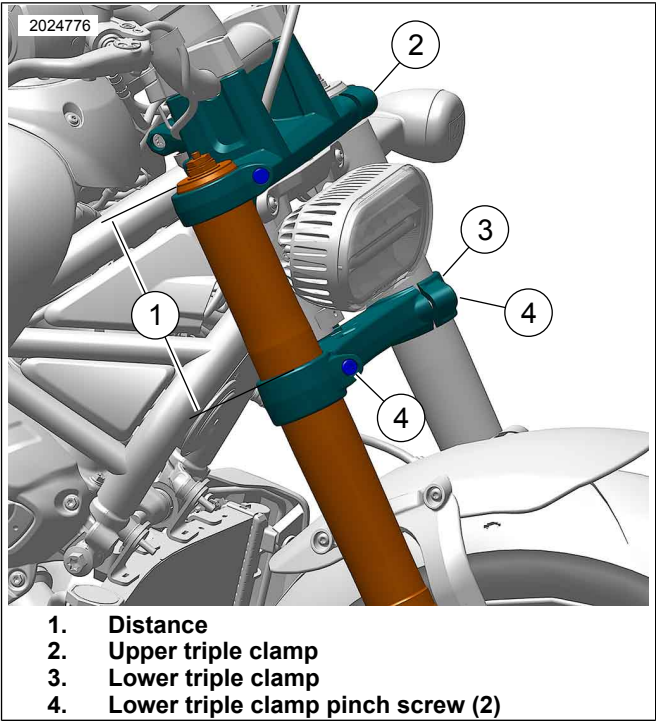

Figure 2. Front Fork Mount (typical)
2. With the OE upper triple clamp (2) removed, set fork height. Refer to Table 4.
- a. See Figure 2. Measure distance (1) from top of fork tube to top of lower triple clamp (3).
- c. Loosen lower triple clamp (3) pinch screw (4).
- d. Adjust as needed. Tighten screw (4).